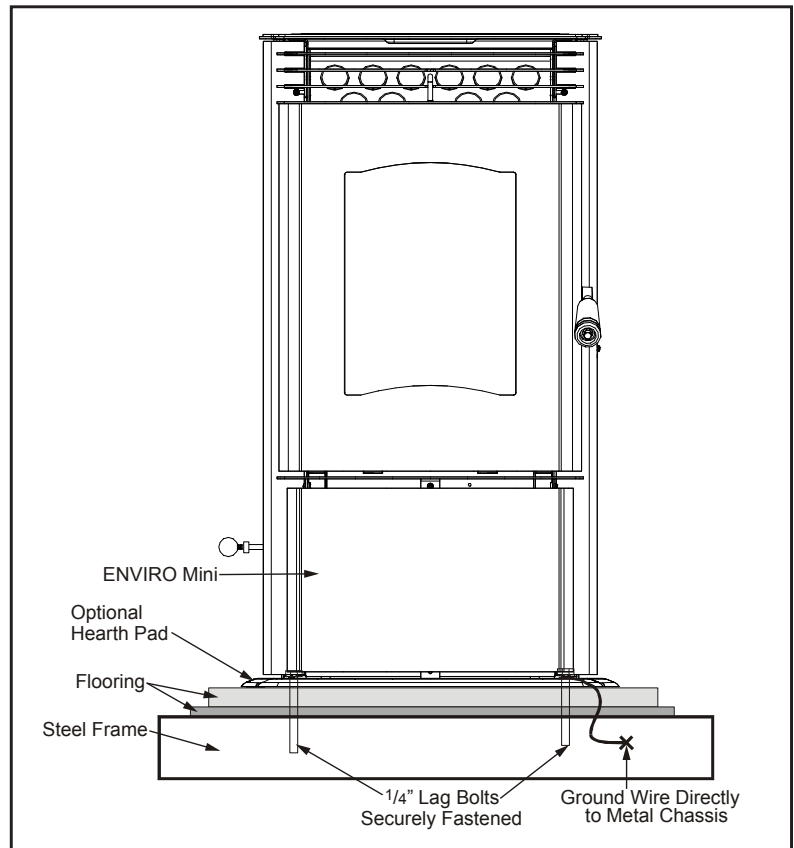

Figure 23: Mobile home installation.
1. Remove the left hand cabinet side by removing the two (2) screws down the front. Loosen the three screws on the back of the cabinet side and remove panel.
2. Loosen the six (6) screws that hold the back grill in place. Lift the back grill off the screws.
3. Disconnect the Exhaust blower wires from the wire harness. Remove the exhaust blower motor from the housing; six (6) screws. Cover hole in housing with cover plate provided (see Figure 23).
5. Install the exhaust blower housing box into the pipe placed through the wall thimble, seal with high temperature silicone. Fasten the box to the wall with (4) four screws, seal edges of box to wall with clear silicone.